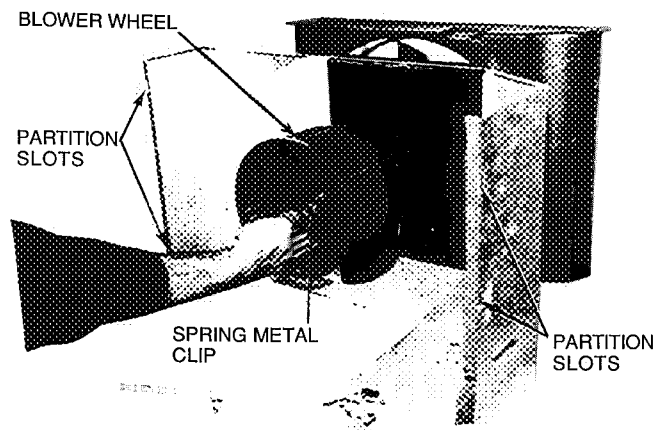

Fig. 22 – Removing Blower Wheel
5. Carefully separate sheet metal partition slots from scroll tabs on both sides by spreading sheet metal sides apart. Remove scroll from sheet metal partition. (See Fig. 22.) Exhaust door and cable assembly from door to rotary knob (Fig. 20) are now exposed for required repairs or adjustments.
5. Carefully separate sheet metal partition slots from scroll tabs on both sides by spreading sheet metal sides apart. Remove scroll from sheet metal partition. See Fig. 22. Vent door and cable assembly from door to rotary knob (Fig. 20) are now exposed for repairs or adjustments.
Indoor Blower Wheel Removal (See Fig. 22)
4. Remove spring metal clip from blower wheel hub. See Fig. 22.